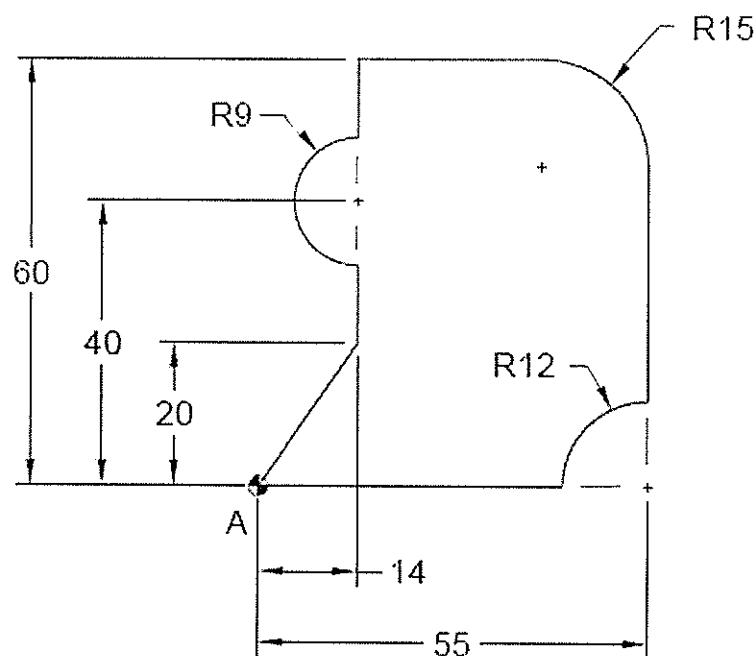

Figure Q4
- (b) For the component shown **Fig. Q4**, make a part program for machining on a CNC machining center equipped with the ISO controller using absolute programming. Choose the bottom left datum A, as the origin of the part and cut in “clockwise direction”. (All dimensions in mm)